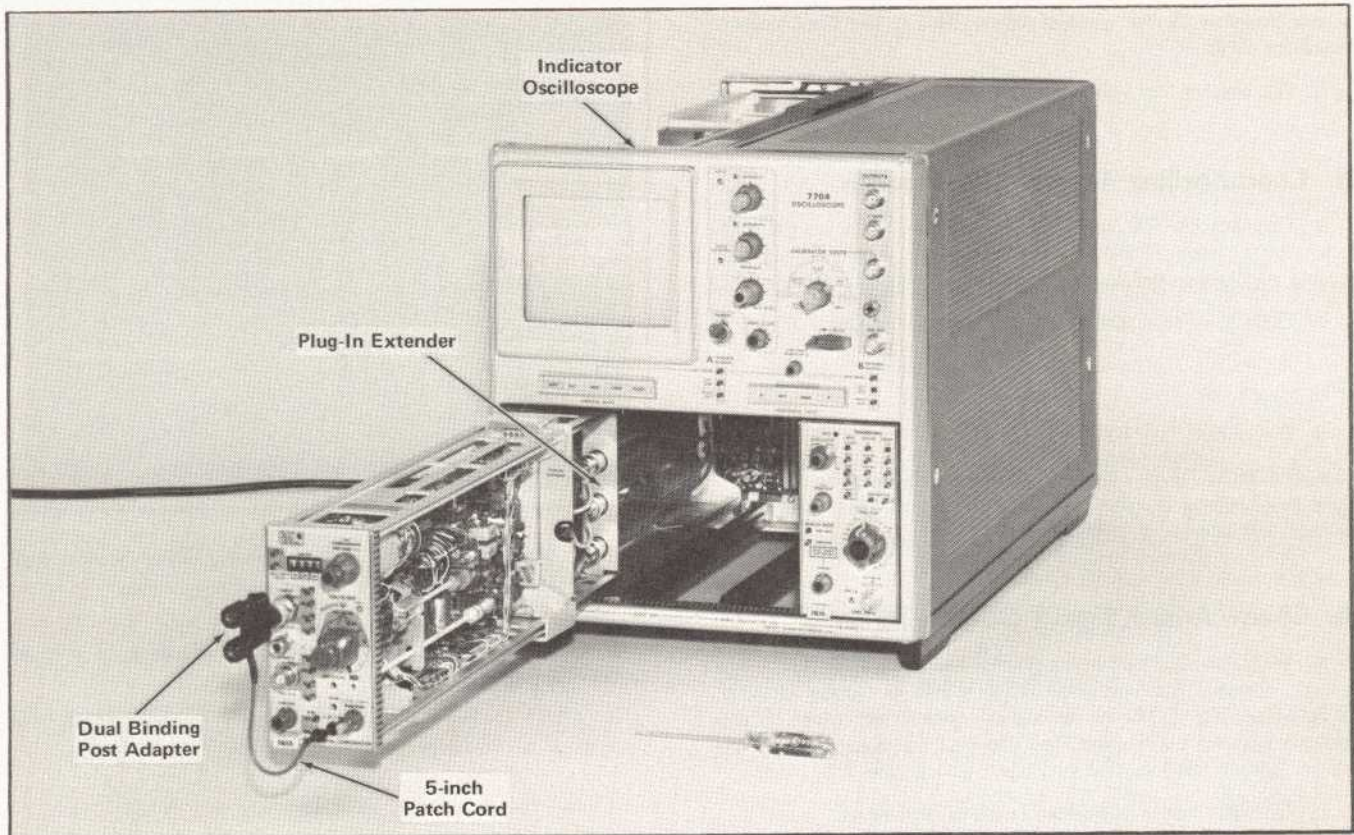

Fig. 5-5. Initial setup showing equipment required for performing steps 10 and 11. For a performance check the Plug-In Extender is not needed.
- Test equipment setup, with connections made at completion of step 10c, is shown in Fig. 5-5.